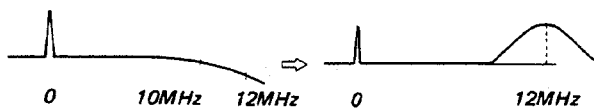

Fig. 4-3
- Adjust output waveform peak to 12MHz with CV102 of the BA board as shown in Fig. 4-3.